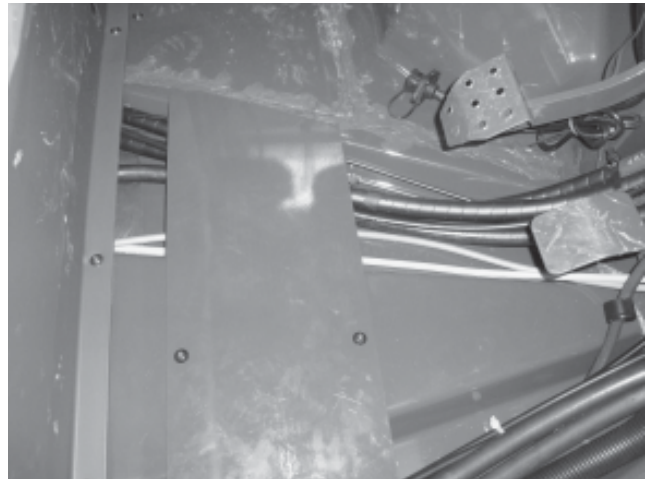

Figure 14
- 14.** Remove floormat and continue routing blue and yellow wires along the trough in the floor as shown in Figure 14. Pivot seat forward and remove under seat storage container allowing access to battery.